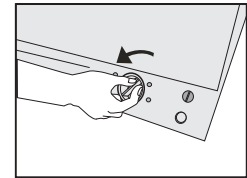

Fig 29
1. Turn the filter down as shown with the figure and take out sundries matters (Fig29).